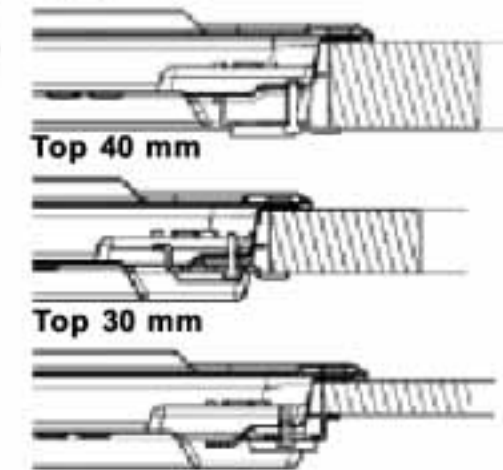

Fig. 1
2. To secure the hob, use the brackets (A) provided with it.
3. Fit the brackets into the relevant bores shown by the arrow and fasten them by means of their screws in accordance with the thickness of the work top (see fig. 1).
- open the terminal board (C) by pressing the side tabs by means of a suitable tool.
- insert the power cable (D) in clamp (E) and connect the wires to the terminal board.
- after the electrical connection, insert the hob from the above and secure on the fixing brackets as shown in figure 1.